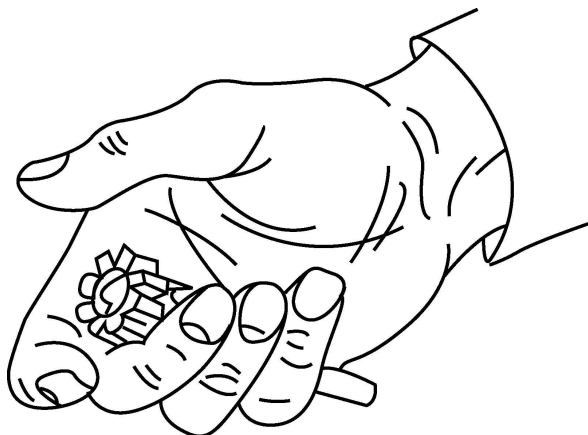

Figure 3-60. Ejector Cleaning
- (1) Remove bolt from carrier.
- (2) Hold the bolt in hand as shown with ejector down and extractor up. Refer to Figure 3-60.